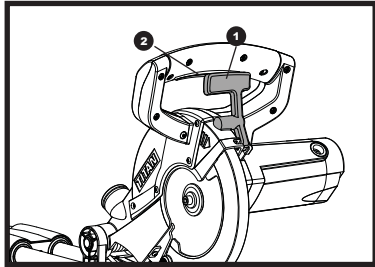

Fig 10
3. STARTING THE SAW (see fig. 10)